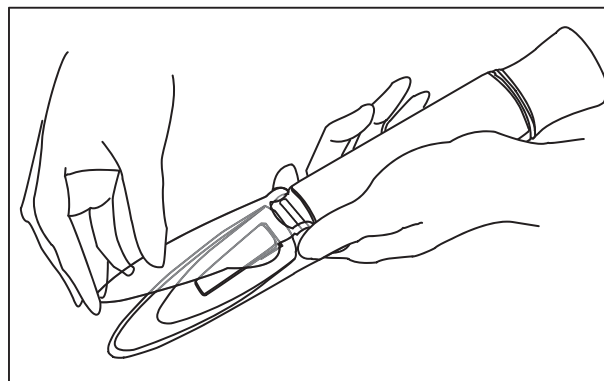

Fig. 6-5 Measuring Procedure 2
2. Close the daylight plate gently. (Fig. 6-5)